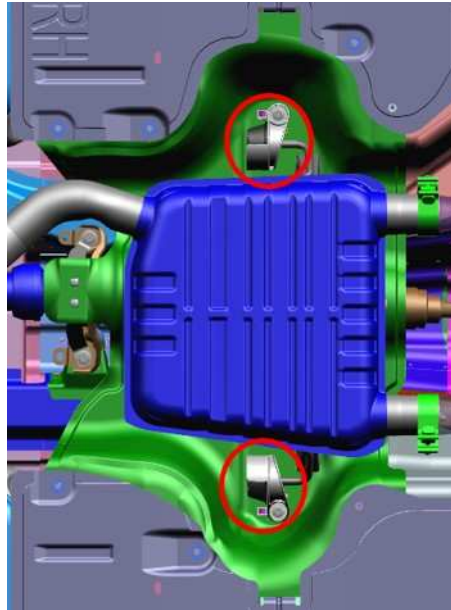

Fig. 16
4. Remove the mid muffler isolator bolts (Fig. 16) .
14. Install the mid muffler isolator bolts (Fig. 16) . Tighten bolts to 25 N·m (221 in. lbs.).